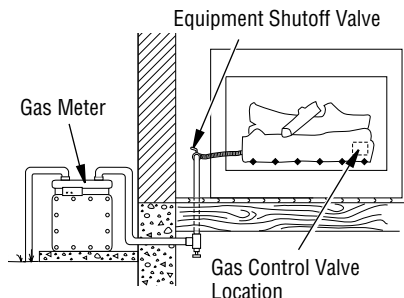

Figure 17 - Checking Gas Joints (Natural Gas Only)
1. Open equipment shutoff valve (see **Figure 17**).